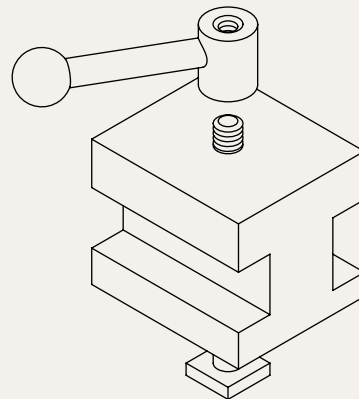
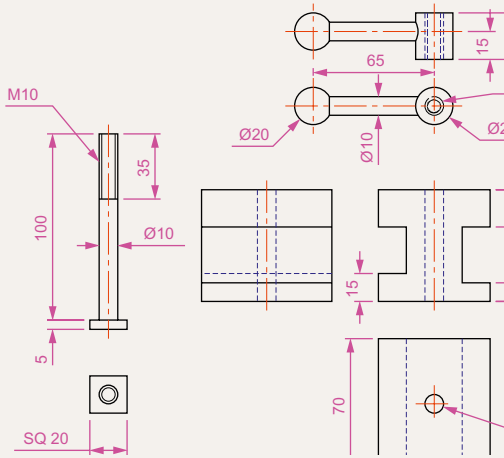

Fig. 7.28 Exercises 4 and 5 – orthographic projections of the three parts of the tool holder
Fig. 7.29 Exercises 4 and 5 – orthographic drawing of the tool holder on which the two exercises are based
4. Construct a three-view orthographic projection in an angle of your own choice of the tool holder assembled as shown in the isometric drawing Fig. 7.28. Details are given in Fig. 7.29.
5. Construct an isometric drawing of the body of the tool holder shown in Figs 7.28 and 7.29.
6. Construct the orthographic projection given in Fig. 7.29.